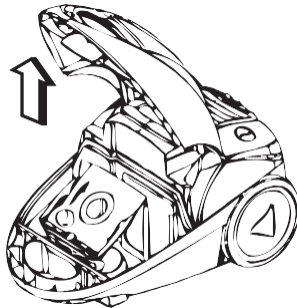
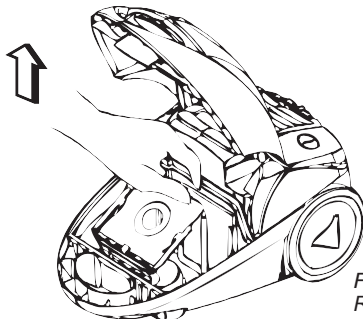

Figure 10 Changing the dust bag
Figure 11
1. Change the dust bag immediately once the 'dust bag full' indicator turns red, see Figure 10.
3. Open the cover by pulling the cover release (dust bag) upwards. Remove the dust bag, see Figure 10. Remove the motor safety filter holder, located behind the dust bag: see Figure 11.